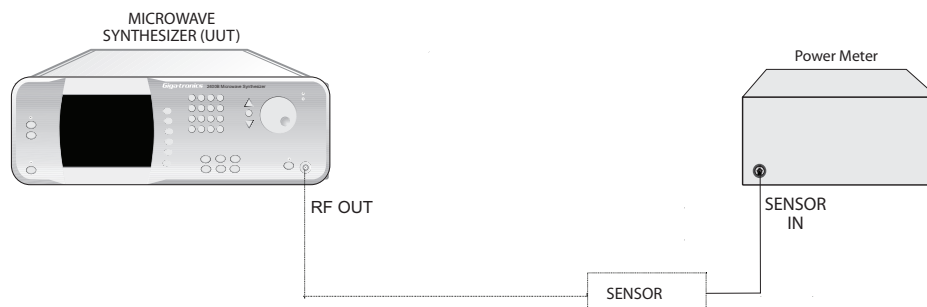

Figure 4-3: Maximum-Leveled Power and Level Accuracy Tests
1. Connect the Power Meter and Power Sensor to the RF output of the UUT as shown in Figure 4-3.
1. Use the test setup described in the Maximum-Leveled Power Test (Figure 4-3).